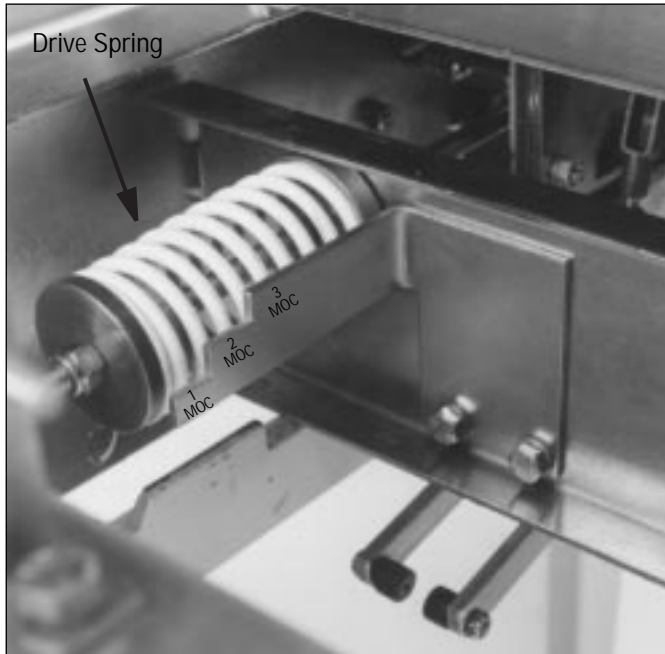

Figure 4-1 MOC Drive Spring
drive spring adjustment is required. The adjustment is done with the breaker out of the cell, open and all springs discharged. Refer to Figures 4-1 through 4-6 for reference assistance.
Step 2: Locate the MOC drive spring (Figure 4-1). It is located in the left lower portion of the breaker as viewed from the top rear of the breaker with the phase barriers removed.